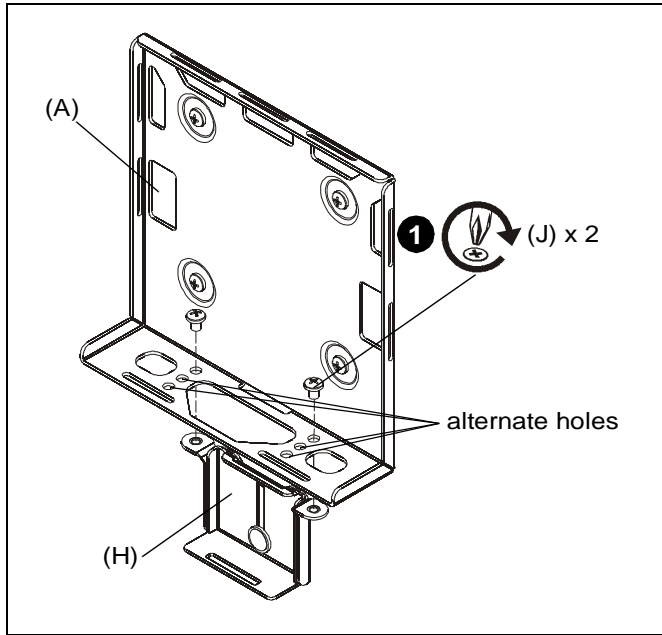

Figure 4
1. Use two #10-24 x 1/4" Phillips pan machine screws (J) to secure power brick bracket (H) to media player bracket (A). (See Figure 4)
NOTE: Alternate holes may be used depending on the size and shape of the power brick adapter. (See Figure 4)